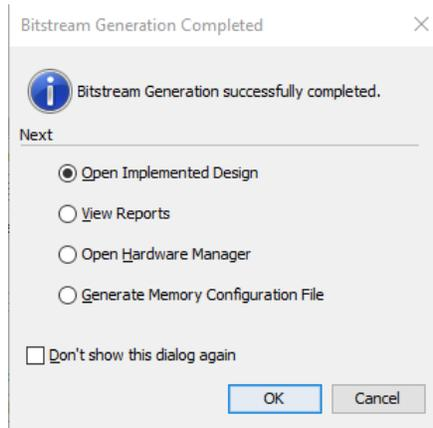

Figure 13: Bitstream generation completed.
20. Once the bitstream has been generated, a dialog window will open to inform you that the process has been completed successfully, as shown in Figure 13.